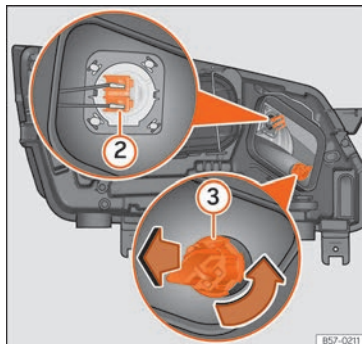

Fig. 58 In the engine compartment: main beam headlight bulb ② and turn signal bulb ③.
- Slide connector »» Fig. 58 ② to the left or right and pull.
- Turn the bulb holder »» Fig. 58 ③ anticlockwise and pull.